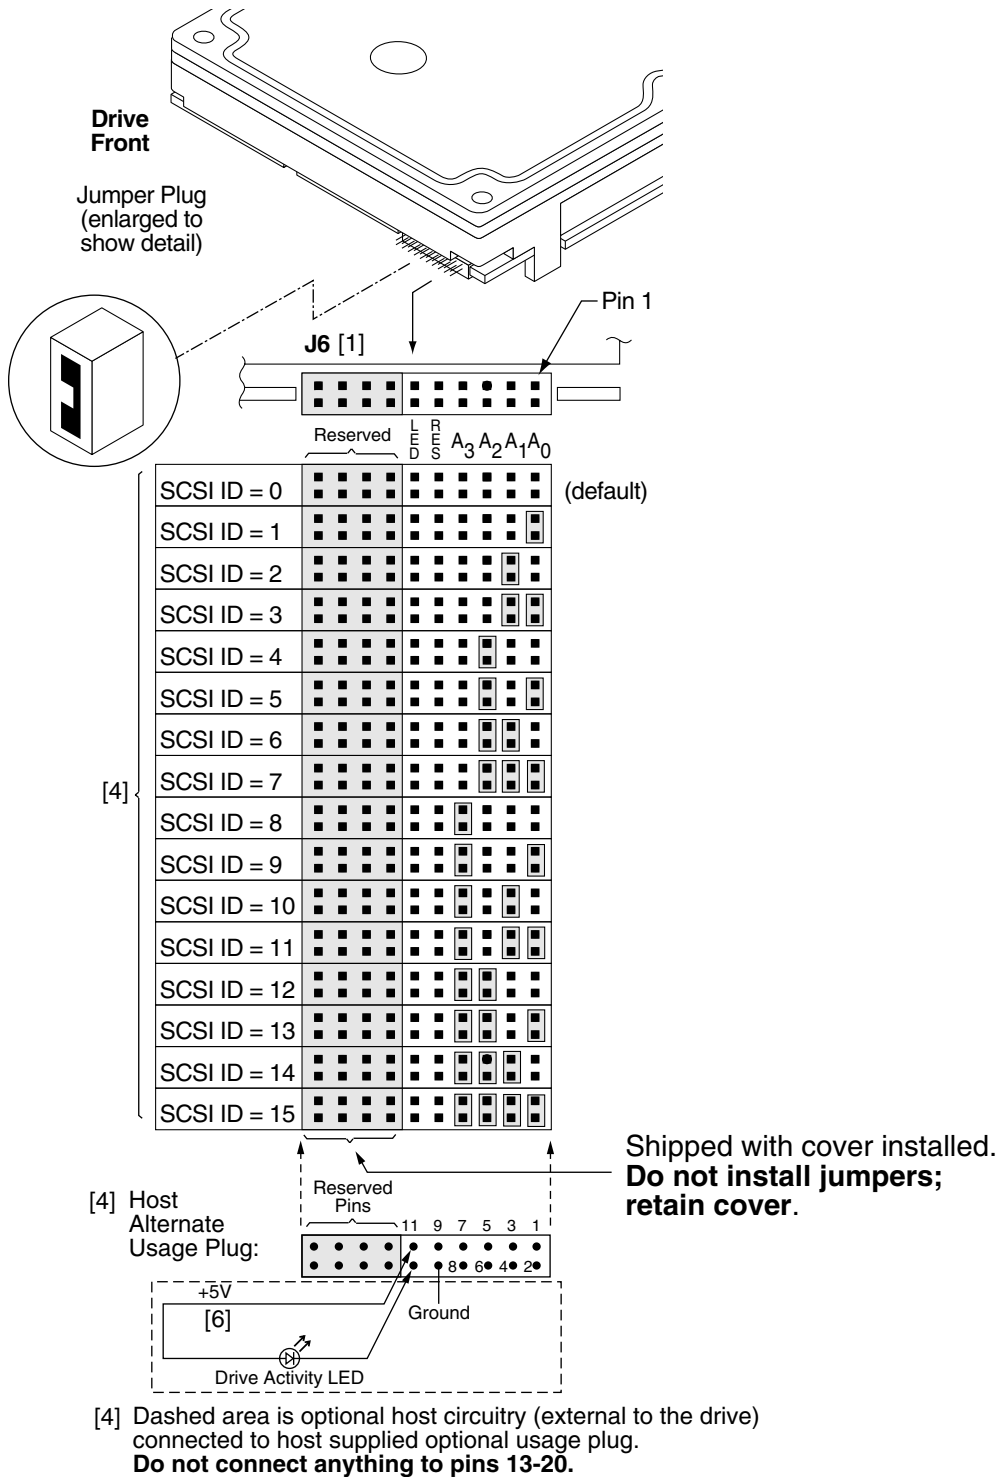
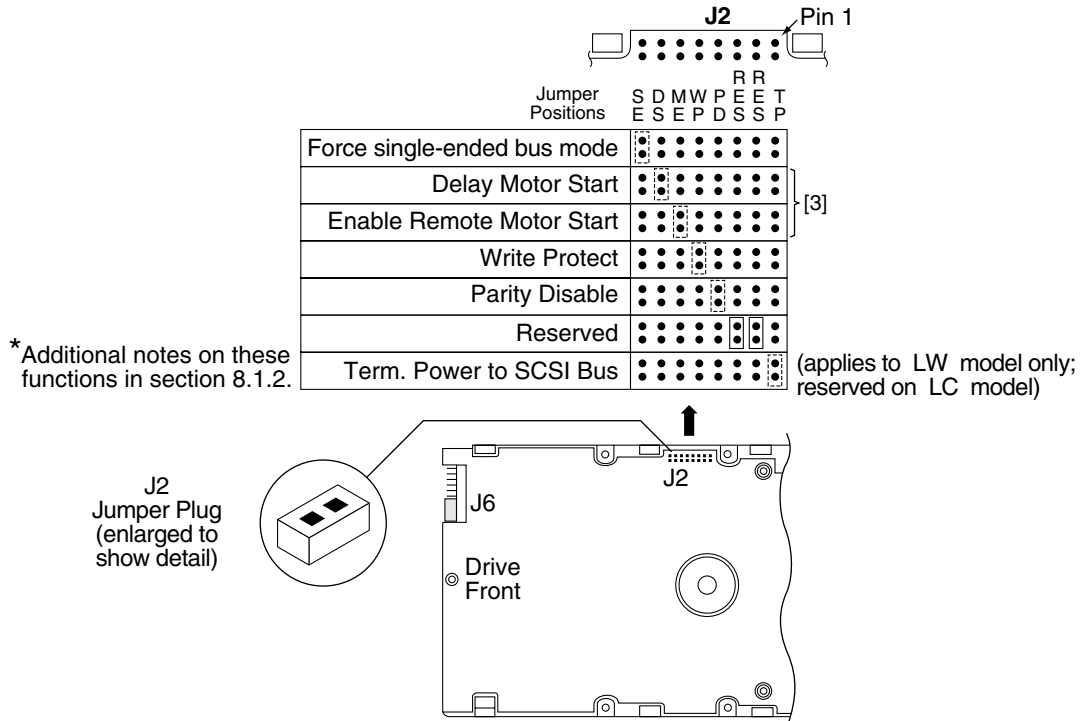

Figure 15. J6 jumper header
Figure 17. J2 option select header
For option jumper locations and definitions refer to Figures 15, 16, and 17. Drive default mode parameters are not normally needed for installation. Refer to Section 9.3.2 for default mode parameters if they are needed.
Figures 15 and 16 show views of the drive ID select jumper connectors. Figure 17 shows the option select jumper connector for all models. Figure 15 shows the drive's J5-auxiliary jumper connector. Both J5-auxiliary and J6 have pins for selecting drive ID and for connecting the remote LED cable. Only one or the other should be used, although using both at the same time would not damage the drive. The notes following the figures describe the functions of the various jumper positions on the connectors J2, J5-Auxiliary and J6. Suggested part number for the jumpers used on J2 is Molex 52747-0211 (Seagate part number 77679052). A bag with the two jumper plug types is shipped with the standard OEM drives.
8.1.1 Notes for Figures 15, 16, and 17.